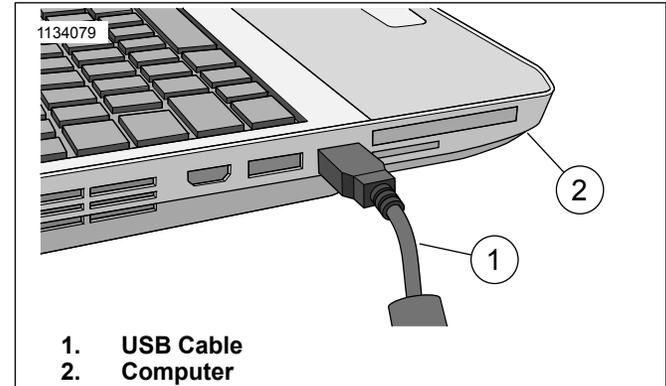

Figure 8. Connect USB to Computer
4. See Figure 8. Connect computer interface cable.